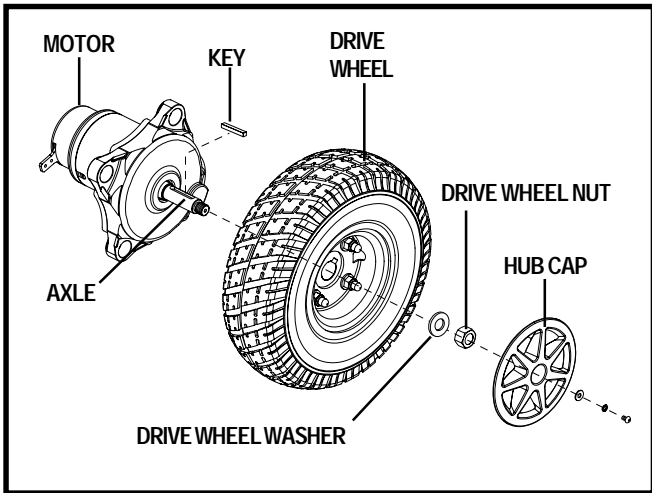

Figure 21. Jazzy Select 6 Drive Wheel
5. Remove the hub cap. See figure 21.
6. Remove the drive wheel nut and washer from the axle. See figure 21.